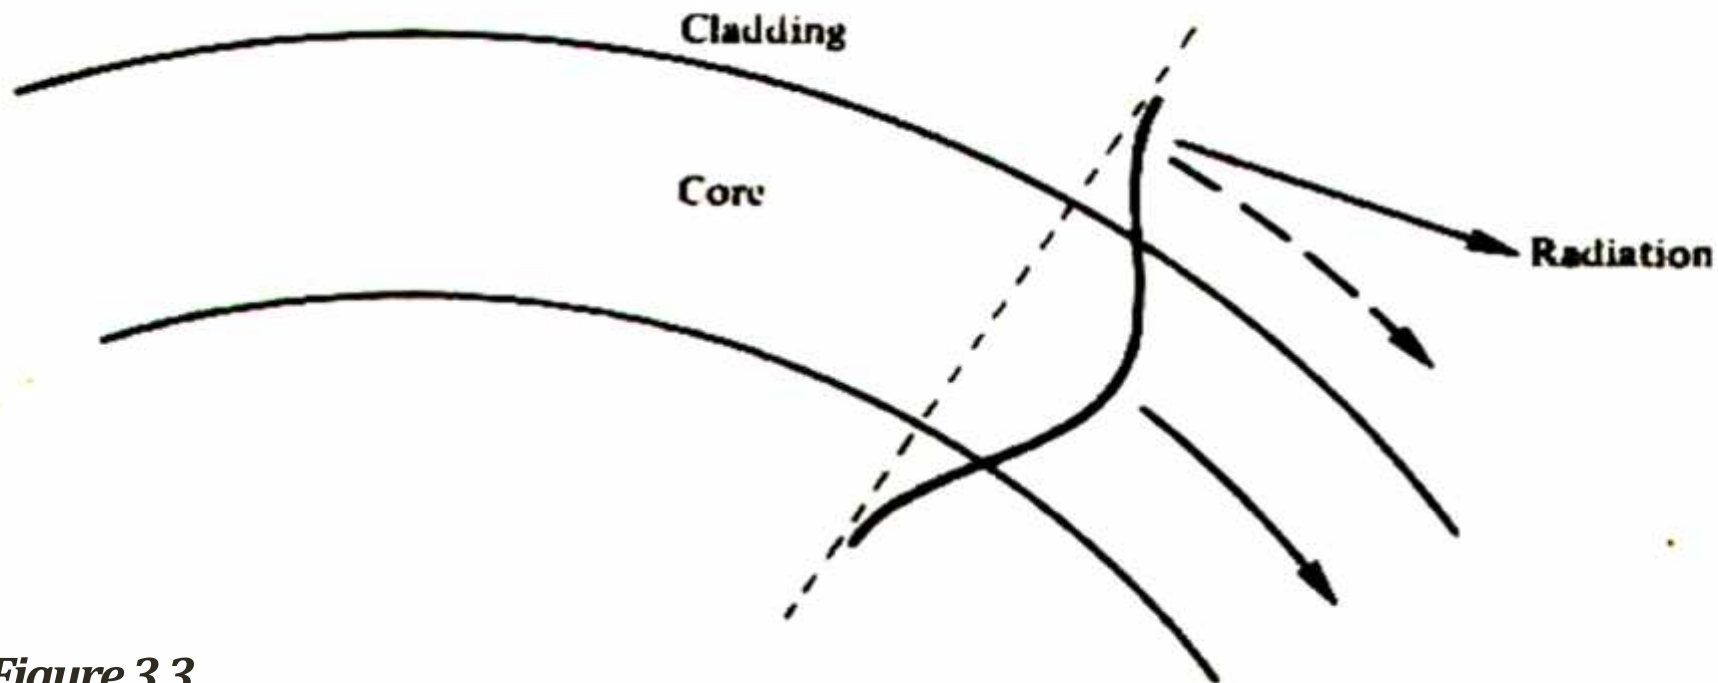

Figure 3.3
- ✦ An illustration of this situation is shown in Fig. 3.3